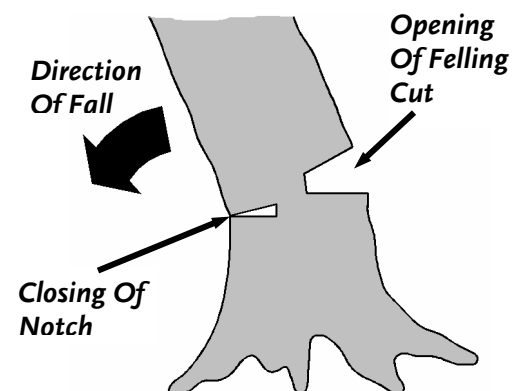

Figure 5
3. Leave enough uncut wood between the felling cut and the notch to form a hinge. (See Figure 5)